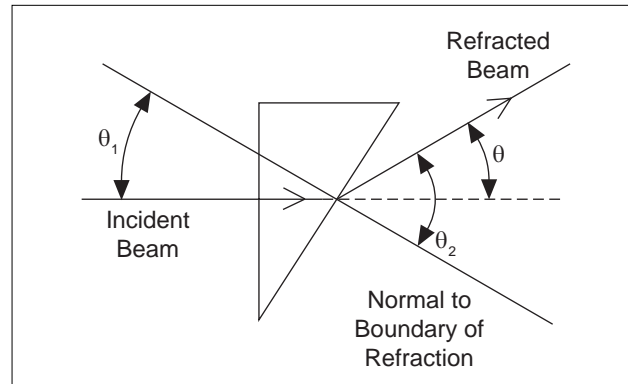

Figure 4.3 Geometry of Prism Refraction
- ④ Using the diagram shown in Figure 4.3, determine θ_1 and use your value of θ to determine θ_2 . (You will need to use a protractor to measure the Prism angles.)
- ① In the diagram of Figure 4.3, the assumption is made that the wave is unrefracted when it strikes the first side of the prism (at an angle of incidence of 0°). Is this a valid assumption?
- ② Using this apparatus, how might you verify that the index of refraction for air is equal to one.
- ③ Would you expect the refraction index of the styrene pellets in the prism mold to be the same as for a solid styrene prism?